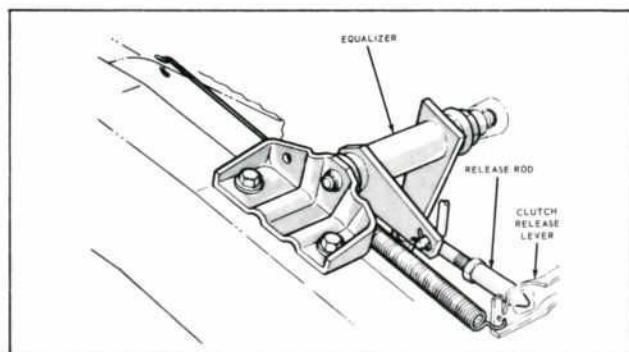

FIG. 2—CLUTCH RELEASE MECHANISM
1. Loosen the jam-nut that secures the adjustable bullet on the end of the clutch release rod. See Fig. 2.